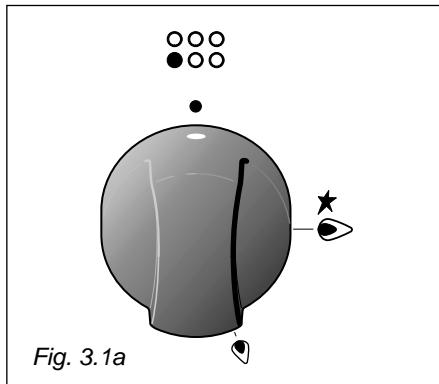
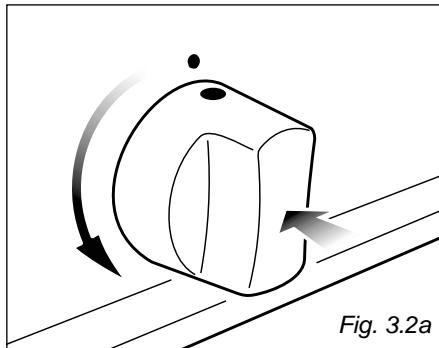

Fig. 3.1a
Fig. 3.2a
- 1) Press in the corresponding knob and turn counter-clockwise (fig. 3.2a - 3.2b) to the full flame position marked by the  or  symbol (Fig. 3.1a - 3.1b) and hold the knob in until the flame has been lit.